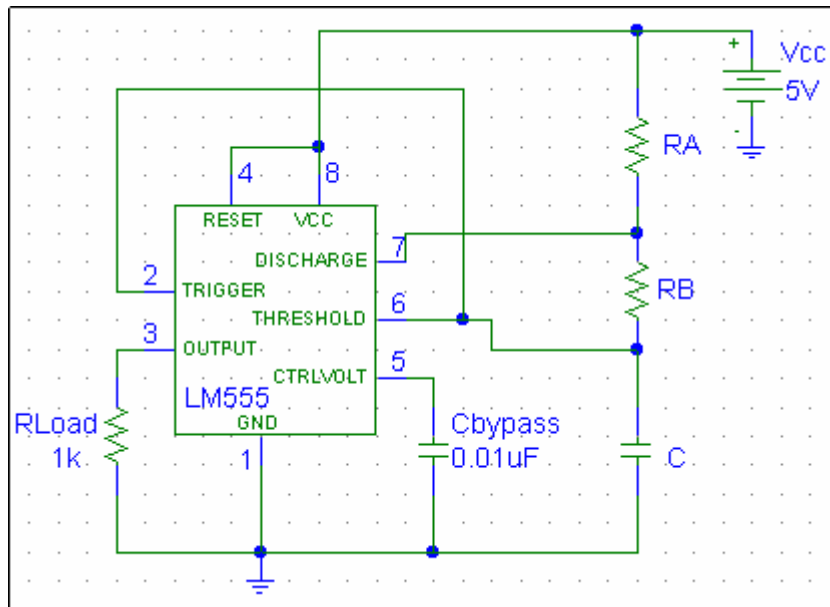

Figure 1 – LM555 Free-running Oscillator Schematic
- Design an astable multivibrator (free-running oscillator), referring to Figure 1 below. Choose the oscillation frequency to be the last 4 digits of your student ID number, and  $C$  to be  $.01 \mu\text{F}$ . Design the oscillator for a pulse width (PW) of  $.60$  (60%).
- Build circuit 1 using the schematic (Figure 1), and your values of  $R_A$ ,  $R_B$ , and  $C$ . Resistors are probably not available in the calculated values: Use the nearest standard value found in the cabinet.